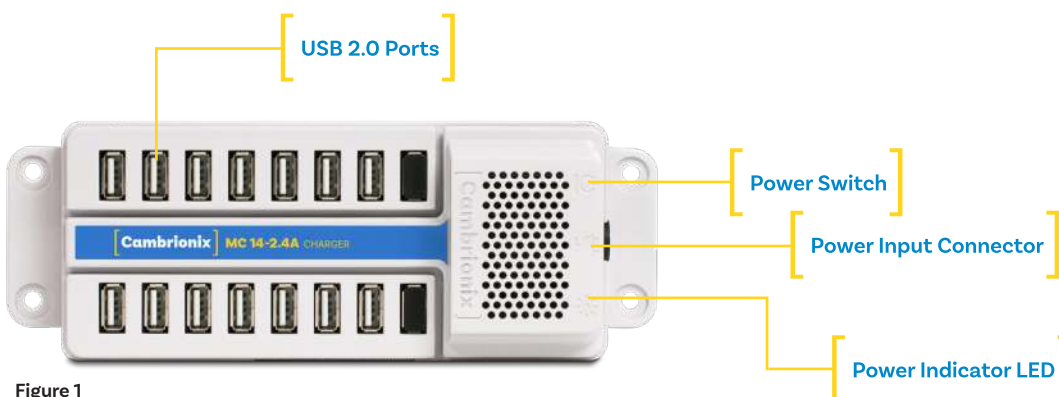

Figure 1
- The MultiCharger unit (see Figure 1 below)